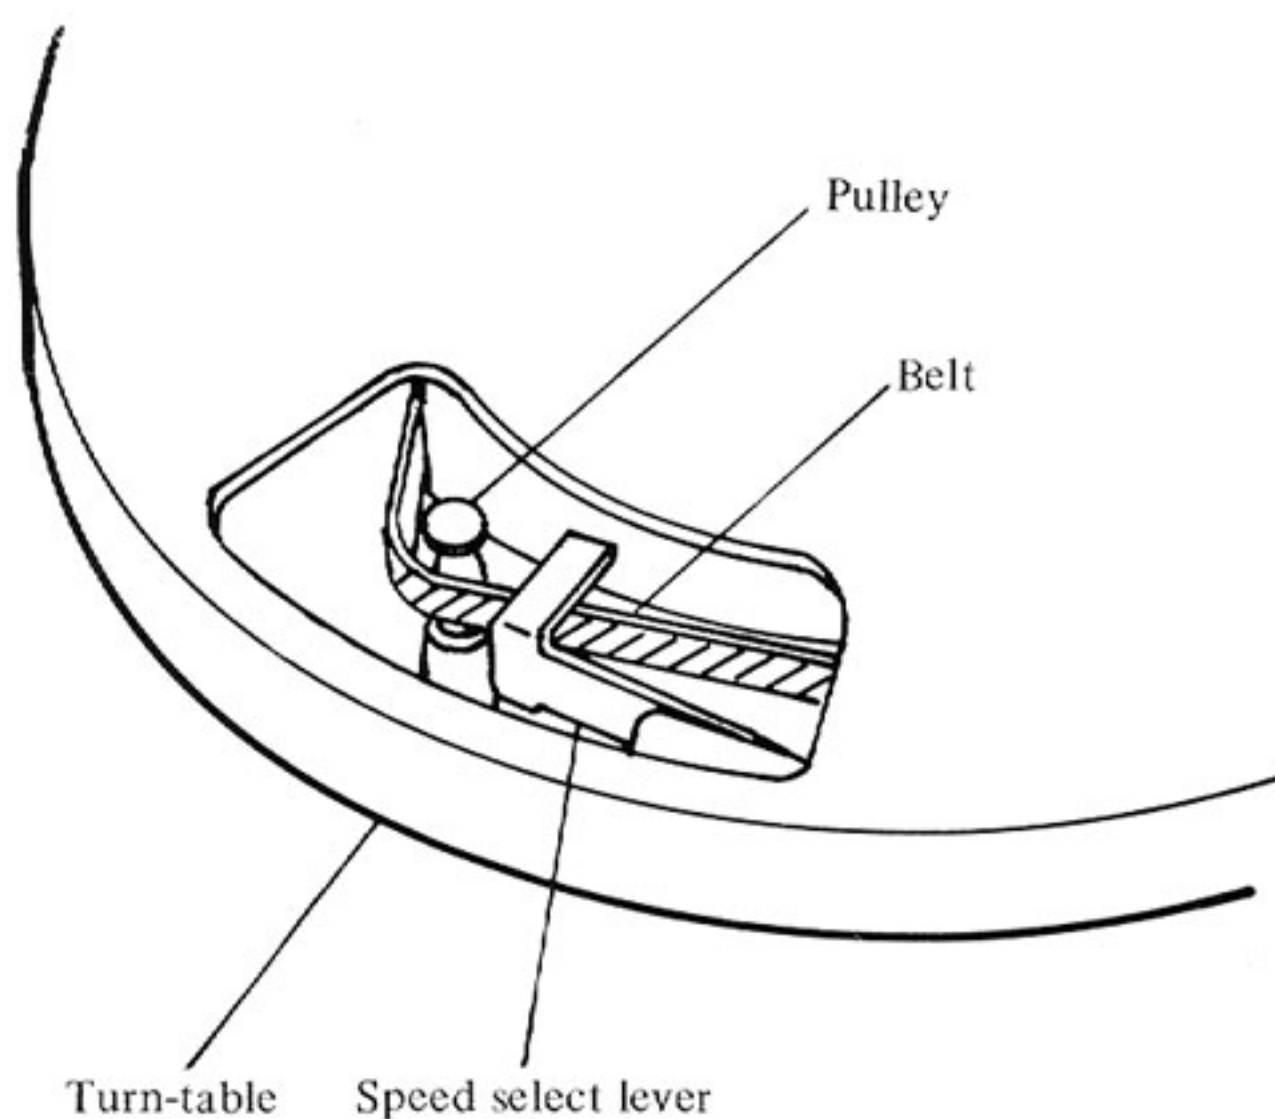

Fig. 4
5. Hold the cotton tape linked to the belt through the opening in the turntable, and place the belt around the pulley (Fig. 4). Then remove the cotton tape.